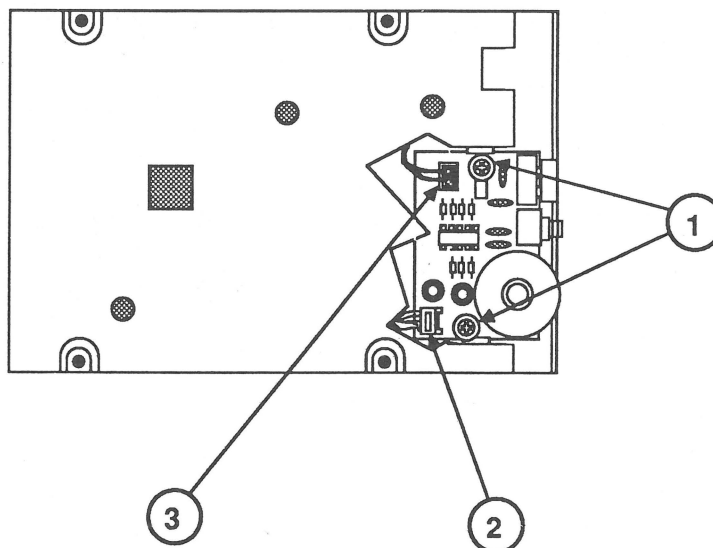

FIGURE 7
5. Remove the two screws (Figure 7, #1) that secure the headphone board to the bottom of the CD SC drive mechanism.
6. Pull the board out slightly from the CD SC drive mechanism and disconnect CNJ653 (Figure 7, #2) from the headphone board.
7. Disconnect CNJ651 (Figure 7, #3) from the headphone board. Remove the headphone board.
1. Connect CNJ651 (Figure 7, #3) to the headphone board.
2. Connect CNJ653 (Figure 7, #2) to the headphone board.
3. Slide the headphone board into place and replace the two screws (Figure 7, #1) that secure the headphone board to the CD SC drive mechanism.